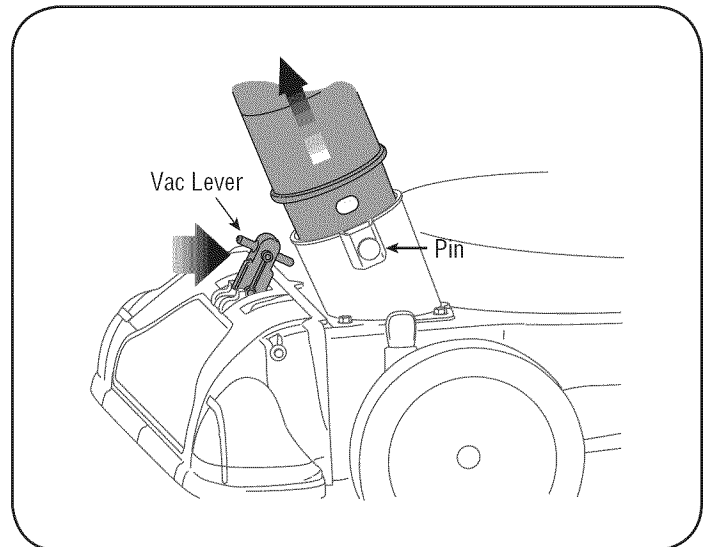

Figure 15
1. Place nozzle/hose vac lever in the top position on the nozzle to vacuum through nozzle. See Figure 15.